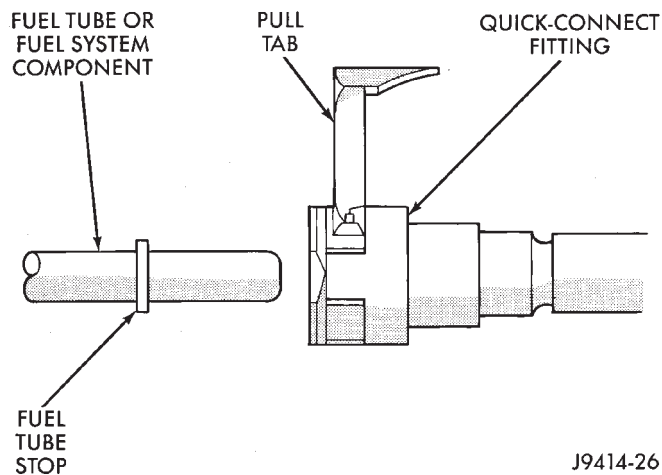

Fig. 16 Removing Pull Tab
(6) Raise pull tab until it separates from quick-connect fitting (Fig. 16). Discard old pull tab.